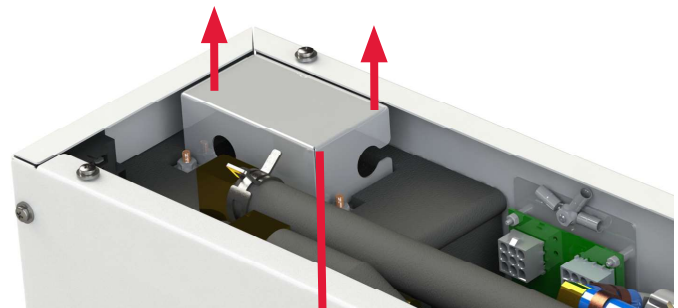

Figure 52
4. Remove the AC access panel on the Aqua-Hot (Figure 52).